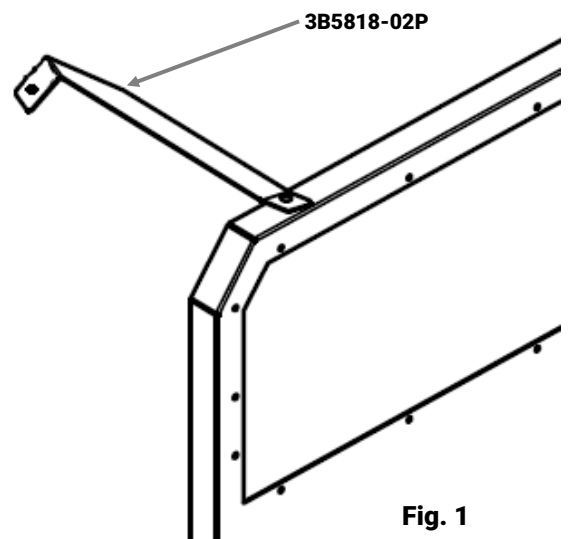

Fig. 1
- A. Install the upper mounting brackets (3B5818-02D driver's side, and 3B5818-02P passenger side) finger tight to the top of the barrier using a (3X36) carriage bolt and (3X16Z) whiz nut on each side. The deep bend on the brackets should face away from the barrier and project in the downward direction (see Fig. 1).